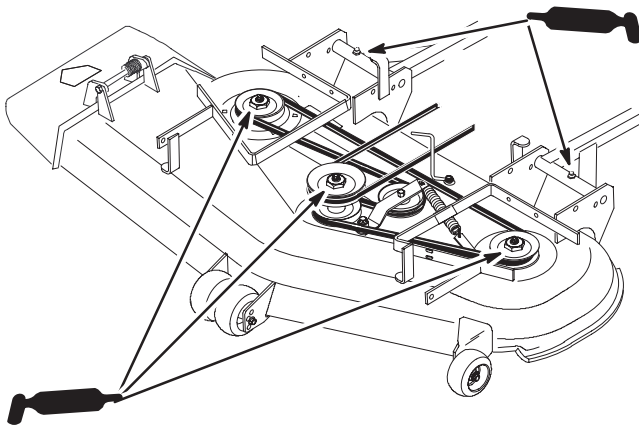

Figure 45
2. Grease the fittings on the three spindle bearings until grease comes out lower seals (Fig. 45).
3. Grease the fittings on the push arms(Fig. 45).